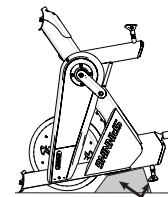

Figure 1
1. Stand the bike frame on its front end (toward flywheel) and place a piece of packaging foam under the bike frame (Figure 1) to protect the handlebar adjustment pop-pin stem from damage.